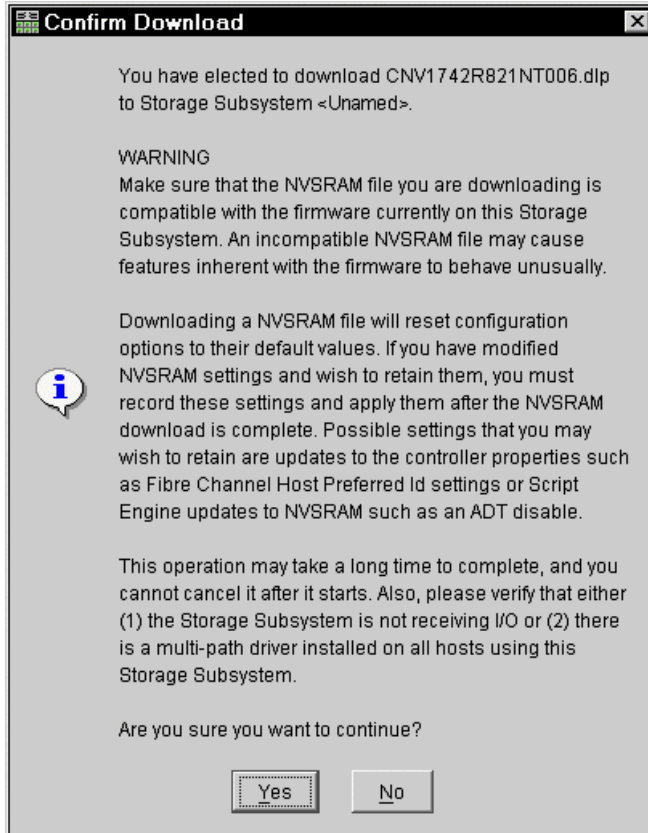

Figure 4-20 Confirm Download of the new NVSRAM
- c. The confirmation window opens again to ensure that you are downloading a version compatible to the firmware you just downloaded. Click **Yes** to accept the requirements and continue (see Figure 4-20).